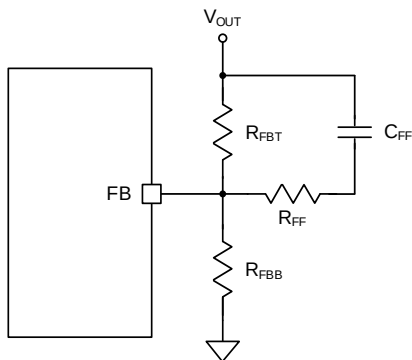

Figure 10-2 FB Configuration with Feedforward Network
Feedforward network in **Figure 10-2** is optional to add an additional pole and zero in loop compensation. It needs to be parallel to R_{FBT} . The zero and pole's frequency introduced by feedforward network is demonstrated in **Equation (2)** and **Equation (3)**, respectively. From the **Equation (2) ~ (3)**, it can be told that feedforward zero f_{FFZ} 's frequency is always lower than pole f_{FFP} . Therefore, feedforward network can introduce additional phase lead and increase loop gain. This helps extend loop bandwidth so transient performance is improved.